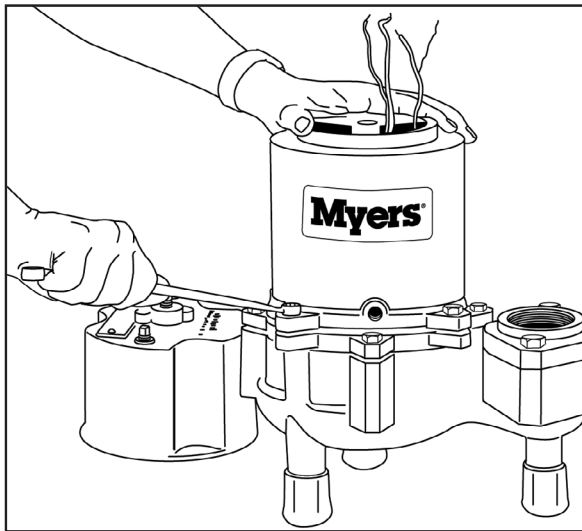

FIG. 15
2. Remove bolts from motor housing only. Do not remove bolts that hold motor plate to volute case. Fig. 15